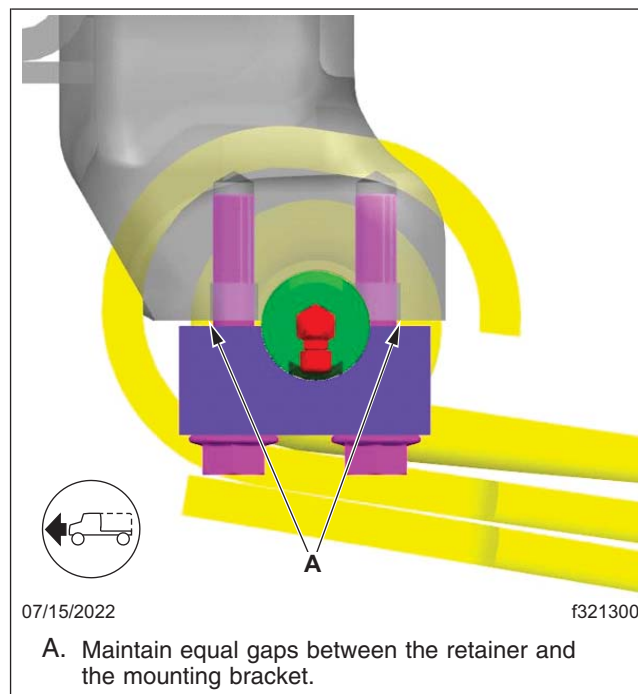

Fig. 3, Front Suspension Setup
- Position and install the spring clamp correctly as shown in Fig. 3.
15. Position and install the spring clamp correctly as shown in Fig. 3.